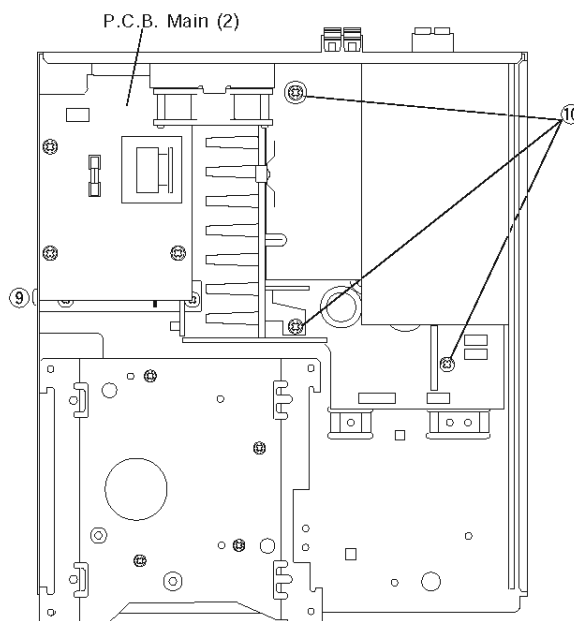

Fig. 7
- Remove 1 screw (⑨) and then remove the P.C.B. Main (2) in Fig. 7.
- Remove 3 screws (⑩) in Fig. 7.